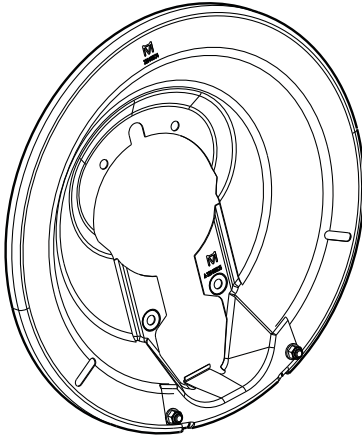

Figure 6.17
- In order to accommodate the MTec6 axle, Meritor has launched a new 2-piece dust shield which is compatible with our standard 5-inch axles and new axle MTec6 (6-inch). This dust shield must be used on axles which are produced after March, 2018. Each dust shield will have embossed part numbers for identification. Prior to assembling the dust shield to the axle assembly, verify the part numbers in the dust shield-kit match the part numbers on the dust shields. Figure 6.17.